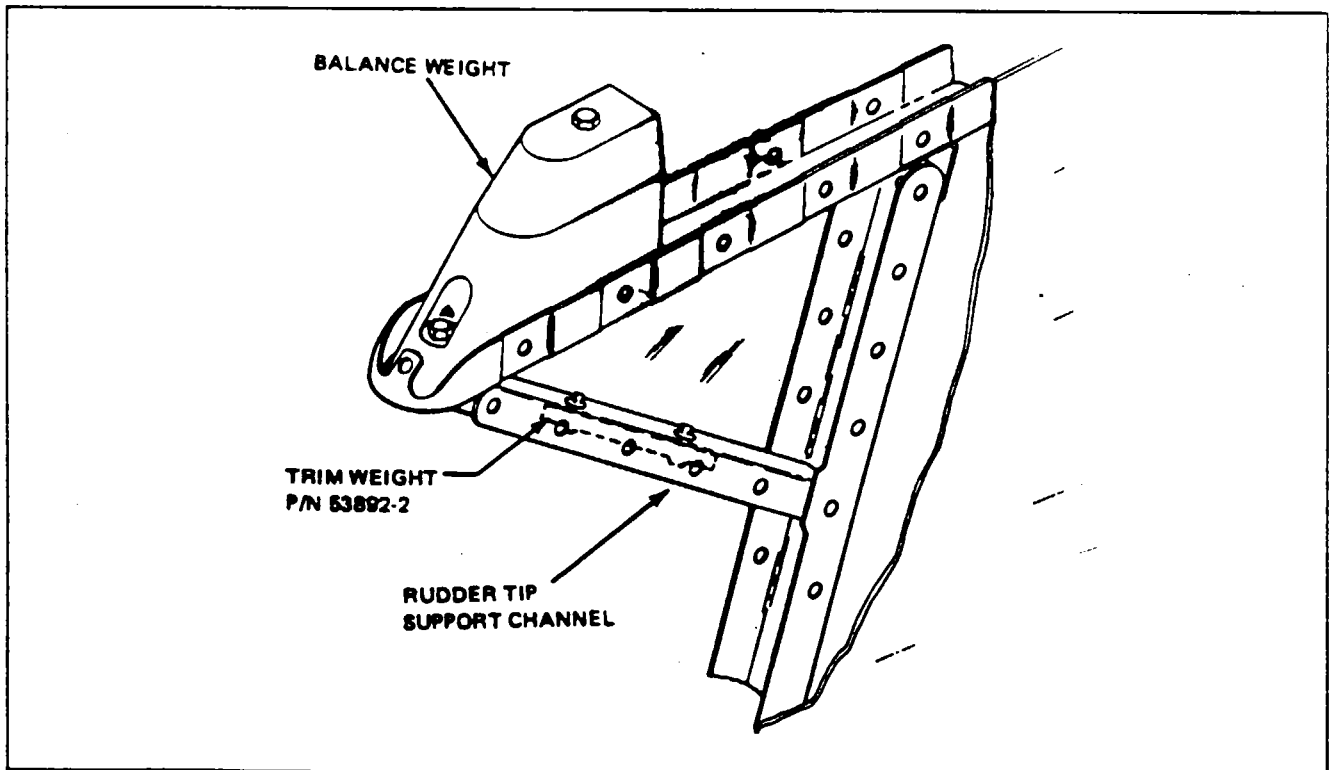

Figure 55-5. Rudder Balance Weight Location
10. For rudder assembly, part number 40046-38, the trim weights are mounted below the rudder to support channel. (Refer to Figure 55-5.)